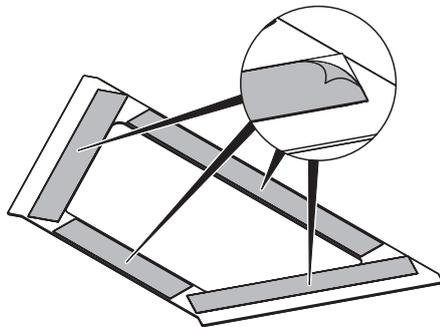

Fig. 149 Preparing the guide plate
20. Remove the film strips from the adhesive tape (Fig. 149).